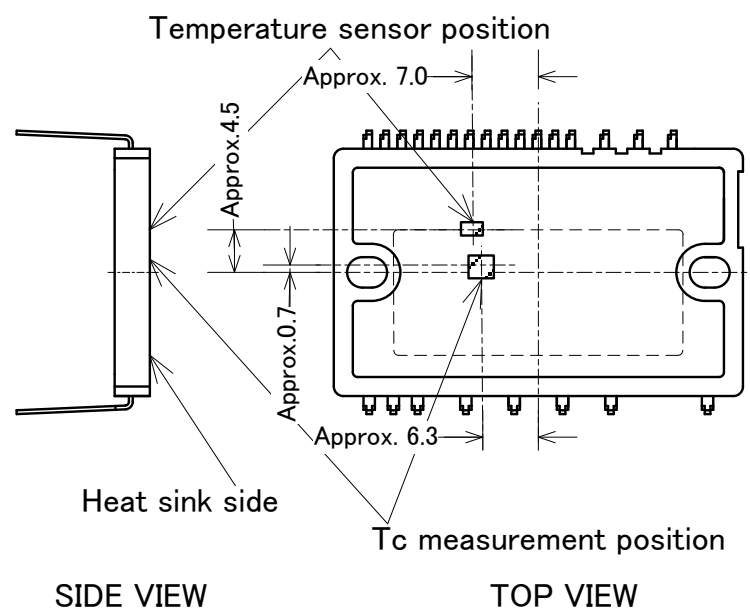

Fig. 6-1 Temperature sensing and T_c measurement points
- If the IGBT or FWD junction temperature is higher than $T_j(\max)$, it might cause damage to the chips. Some types of the Small-IPM have the over-heating (OH) protection function which works when the IGBT junction temperature exceeds $T_j(\max)$. However, if the temperature rises too quickly, the OH protection might not work.
- When selecting a cooling device (heat sink), please verify the chip temperature T_j by measuring T_c at the position shown in Figure 6-1, and calculating the T_j from device power dissipation and thermal resistance. In addition, this product has a built-in temperature sensor, and T_j can be confirmed by the analog voltage that is output according to the LVIC chip temperature. Please refer to it when selecting the cooling device (heat sink).